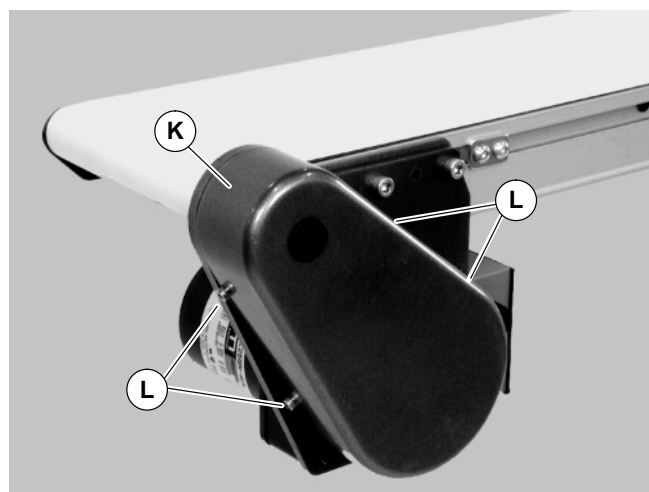

Figure 8
8. Install cover (K of Figure 8) with four (4) screws (L). Tighten to 4 Nm.